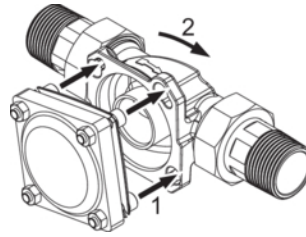
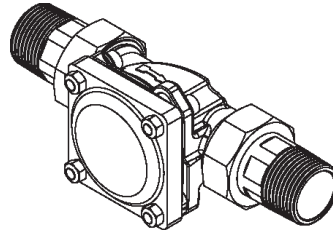

Fig. 3: Attach and engage appliance
Fig. 4: Connection of appliance engaged
1. Insert the heads of the four flange screws through the bayonet holes on the rotary flange fitting (see Figure 3).
2. Turn the device in clockwise direction up to the stop (see Figure 3 and Figure 4).